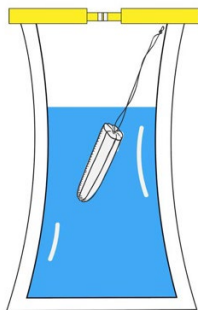

Figure 2. Whirl-Pak® Bag
3. After collecting the water sample, using gloves, carefully remove the tampon from its packaging without touching it, and hold it by the string. Place the entire tampon in the Whirl-Pak® bag (Figure 2). Close the bag and invert 25X.